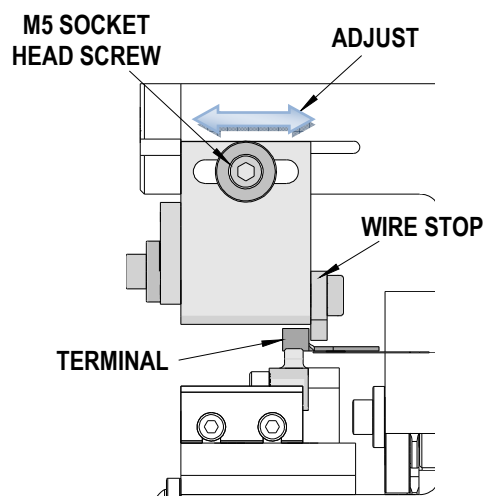

Figure 2-13
3. To adjust the wire stop, loosen the M5 socket head screw on the side of the stripper. Move the wire stop in or out until it is near the end of the terminal barrel. See Figure 2-13. Tighten the M5 socket head screw when adjustment is complete.